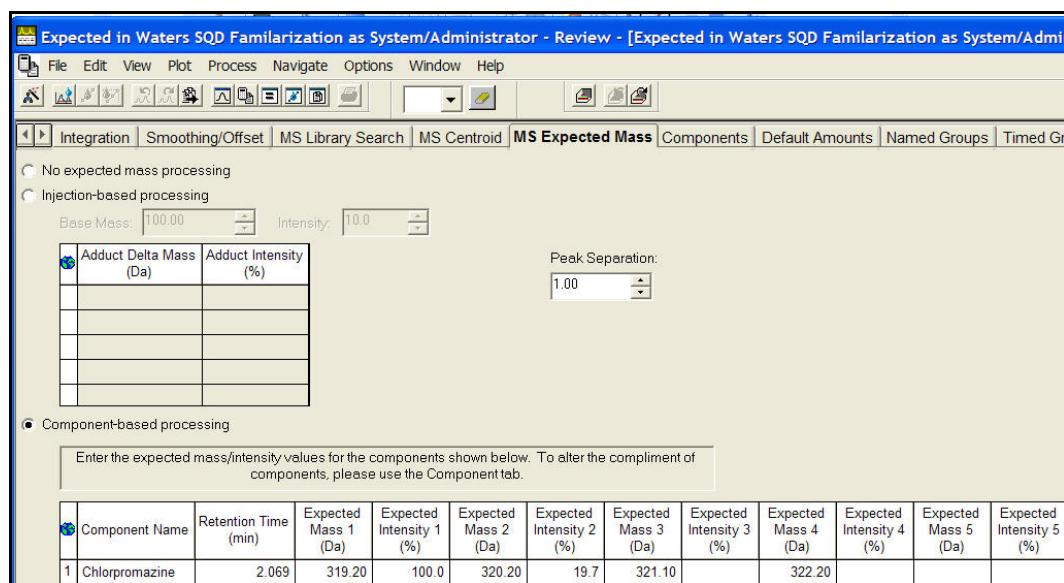

Figure 206 - Required masses
10. Set the masses as displayed in Figure 206.